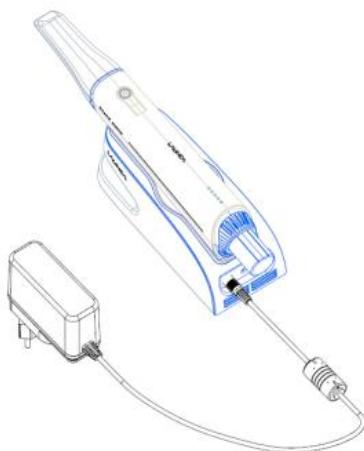

Fig. 1-6 Power Interface Diagram
- ① Plug the RJ45 data cable on the camera adapter unit into the converter, and plug the USB data cable on the Converter into a Notebook. Then the camera adapter unit is connected to AC power as shown in Fig 1-6.